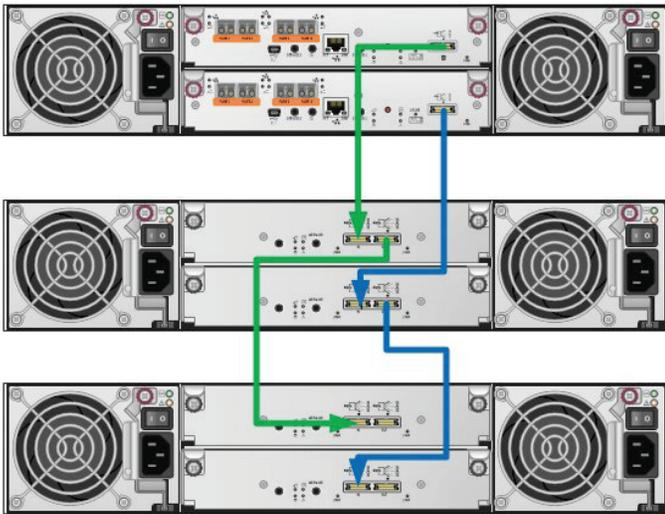
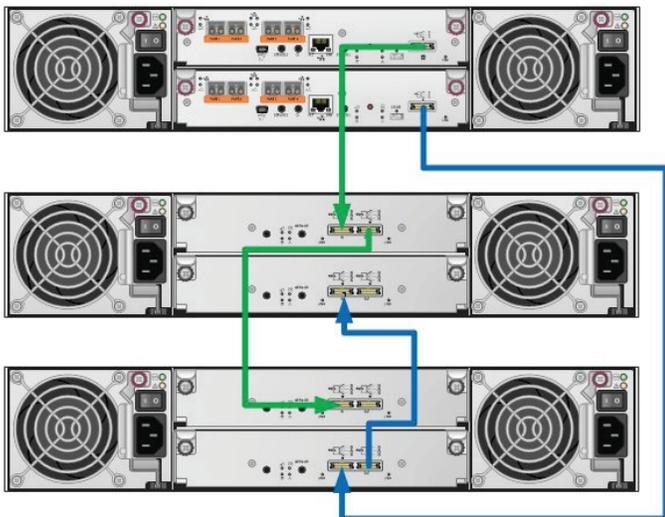

Figure 28. Straight-through cabling configuration
Figure 29. Fault-tolerant cabling configuration
- You are moving from a straight-through cabling configuration to a fault-tolerant cabling design. To determine the current cabling configuration, see **Figure 28** and **Figure 29**.
- An HPE MSA 1050/2050/2052 with a straight-through cabling configuration (**Figure 28**) and wish to add one or more additional Disk Enclosures of storage while continuing to use the same cabling configuration, see the section entitled Extending the straight-through cabling configuration.
- An HPE MSA 1050/2050/2052 with a straight-through cabling configuration (**Figure 28**) and requires the system to be reconfigured into a fault-tolerant cabling configuration or is adding an additional Disk Enclosure to your current configuration and want to implement a fault-tolerant configuration, see the section entitled Upgrading from straight-through cabling to a fault-tolerant cabling configuration.
- You have an existing HPE MSA 1050/2050/2052 Storage System currently configured for fault-tolerant design (**Figure 29**) and need additional Disk Enclosures for the existing configuration; see the section entitled Adding additional storage to an existing fault-tolerant environment.